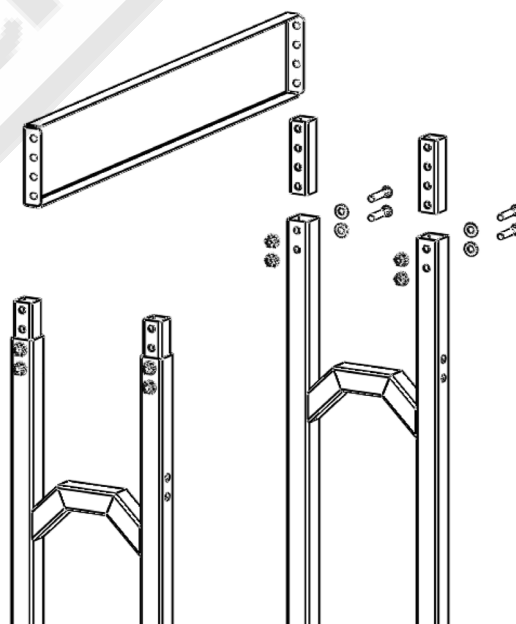

FIG. 4.3
3. Align two holes in each connector with two holes on both lower support leg and supporting bracket and secure with (8) 5/16" x 1 1/4" hex bolts, 5/16" flange washers, and 5/16" hex nuts. Only hand tighten for now. (Fig. 4.3)